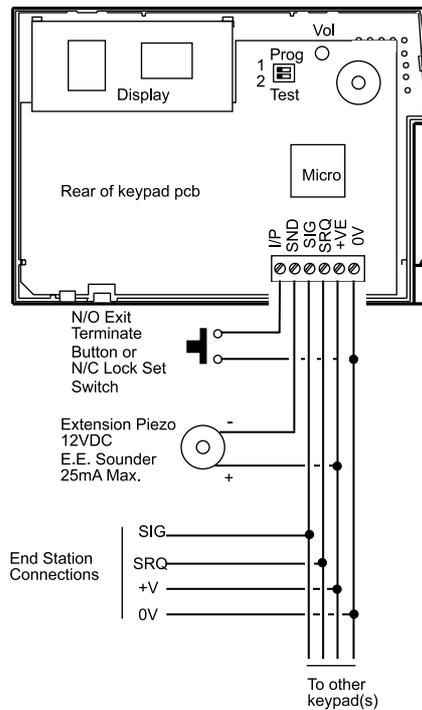

Figure 5. Wiring a 930 or 931 Keypad
1. Open the keypad case and identify the Prog and Test switches, see Figure 5.
All keypads must be connected either to Keypad terminals on the main PCB or "daisy chained" to other keypads. Figure 5 shows the connections.